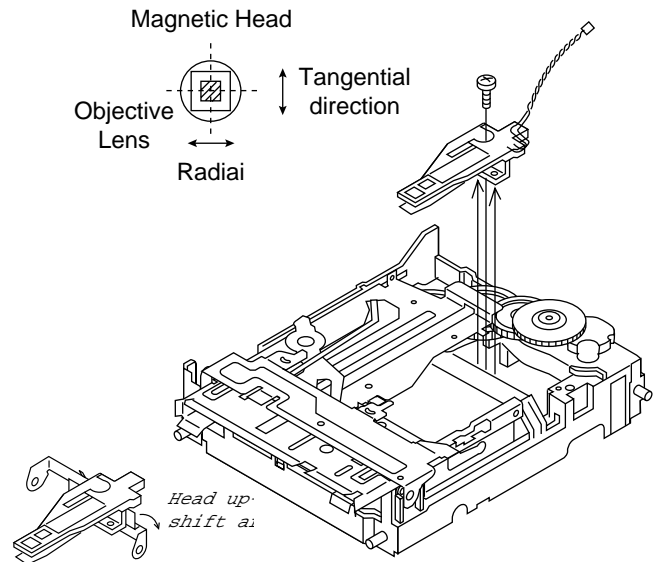

Figure 27-2
4. Check that the magnetic head moves up and down smoothly. (See Fig. 27-2)